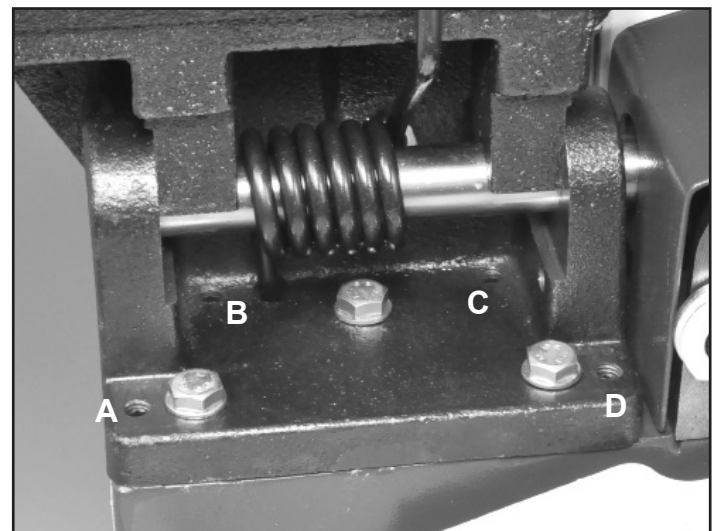

FIG. 19
2. With the table up, the Support Base (#120) for the outfeed table is exposed. The base has three Hex Bolts (#132) and four Set Screws (#134) that fasten the table to the cabinet. The set screws can be adjusted to slightly tilt the table to align it with the infeed table. FIG. 19.
- The pair of 2 set screws to the far left will raise the left end of the table. FIG. 19, A & B.